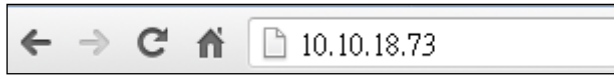

Figure 3-19: IEI iMAN Web Address
Step 2: On the remote management console, open a web browser. Enter the managed system IP address in the web browser (**Figure 3-19**).